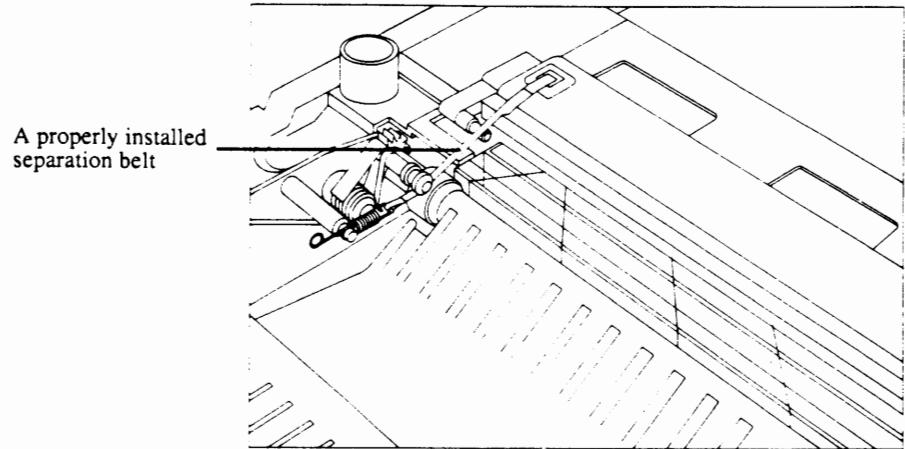

FIGURE 15
7. Check the following items after installing the separation belt (Figure 15).